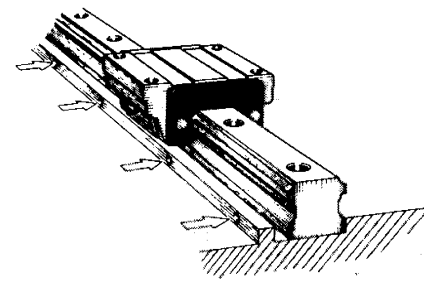

Fig. 17 Push screw tightening
- 3) Tighten the rail push screws sequentially so that close contact with the side mounting surface is obtained. (Fig. 17)